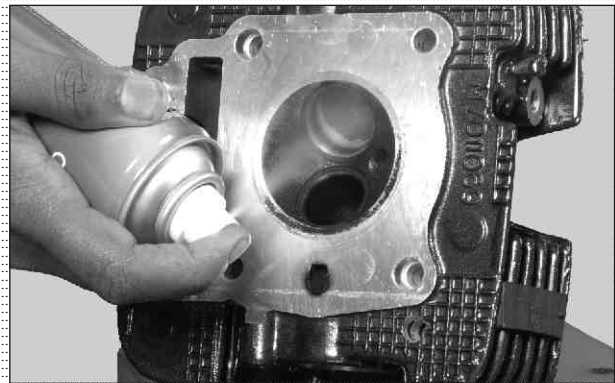

Fig. 2.41
- Carbon deposits in the combustion chamber of head complete cylinder and on piston crown will increase the compression ratio and may cause pre-ignition or over heating. Carbon deposition at exhaust side of head complete cylinder will prevent smooth flow of exhaust, reducing the engine power output. Remove carbon deposits periodically using suitable cleaning solvent. (Fig. 2.41)